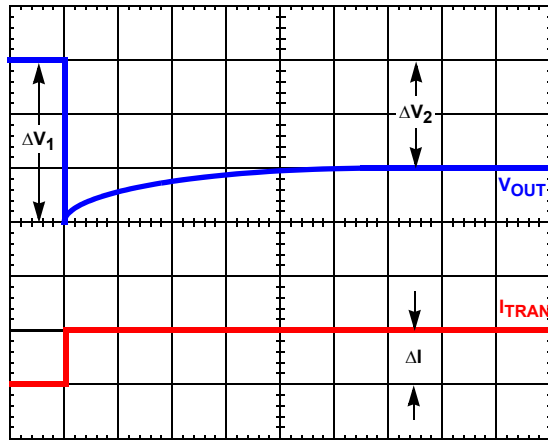

FIGURE 21. TIME CONSTANT MISMATCH BEHAVIOR
Due to errors in the inductance or DCR it may be necessary to adjust the value of R_1 to match the time constants correctly. The effects of time constant mismatch can be seen in the form of droop overshoot or undershoot during the initial load transient spike, as shown in Figure 21. Follow the steps below to ensure the R-C and inductor L/DCR time constants are matched accurately.
2. Record ΔV_1 and ΔV_2 as shown in Figure 21.